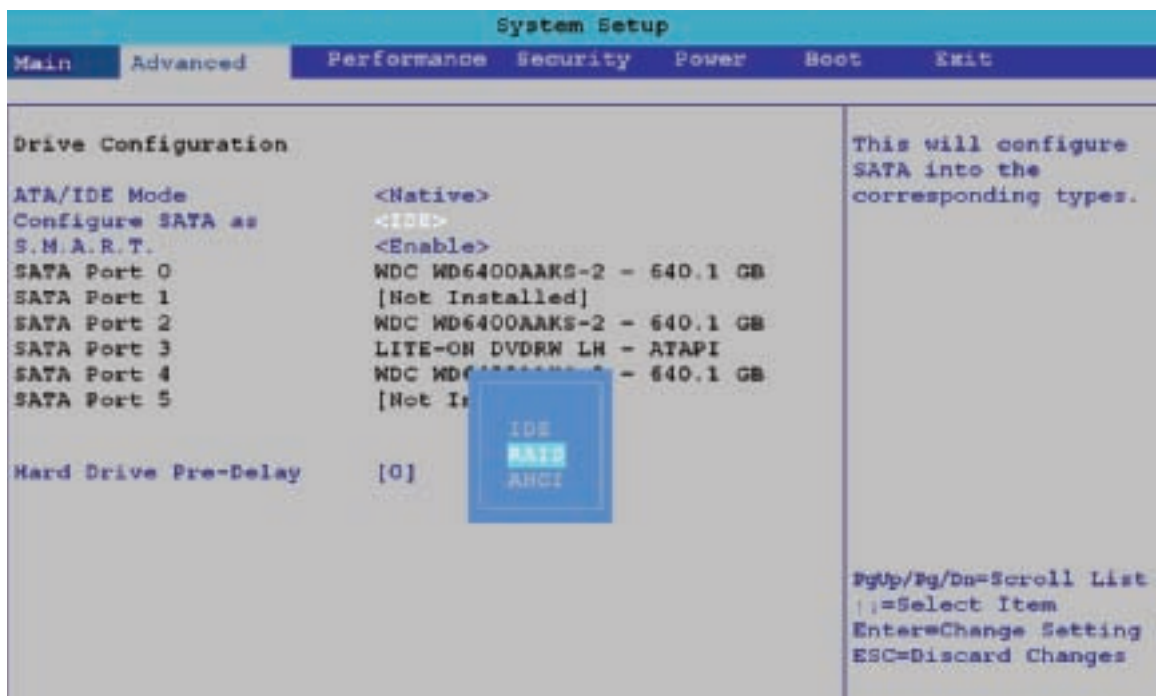

Figure 8-50 Configure SATA ports on the motherboard to enable RAID
2. Boot the system and enter BIOS setup. On the Advanced setup screen, verify the three drives are recognized. Select the option to configure SATA and then select RAID from the menu (see Figure 8-50).